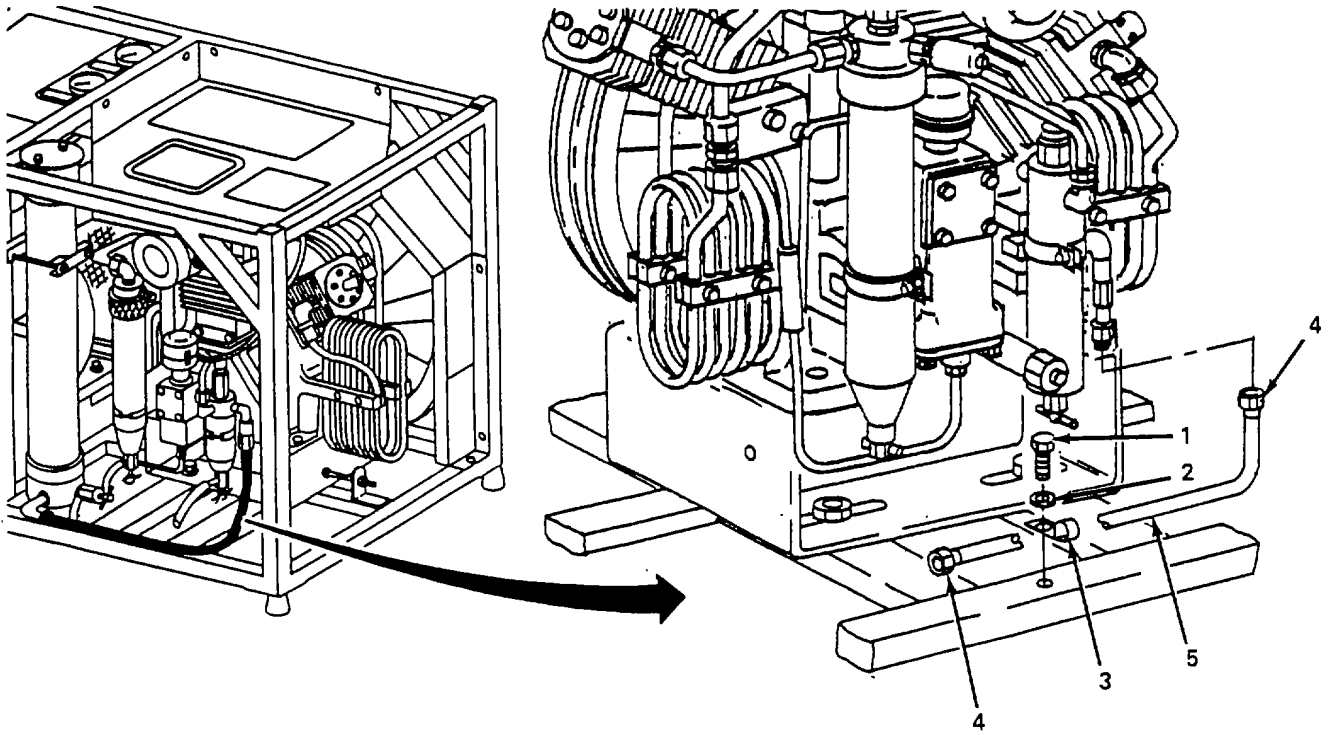

Figure 5-24. Final Separator to Purifier Assembly Line, Replace.
h. Replace Final Separator to Purifier Assembly Line. (figure 5-24)
- (1) Remove bolt (1), washer (2), and clamp (3).
- (2) Loosen two connector nuts (4) and remove final separator to purifier assembly line (5).
- (3) Install final separator to purifier assembly line (5) and tighten two connector nuts (4).
- (4) Install clamp (3), washer (2), and bolt (1).